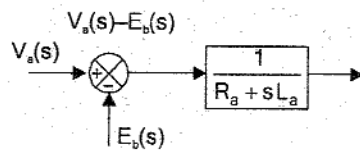

Fig 1.
In equation (6), $V_a(s)$ and $E_b(s)$ are inputs and $I_a(s)$ is the output. Hence the equation (6) is rearranged and the block diagram for this equation is shown in fig 1.